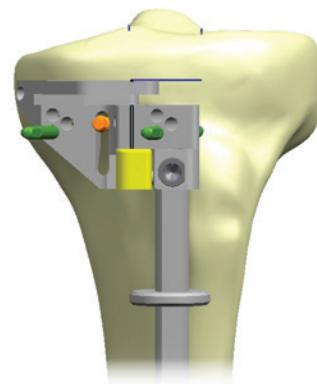

Figure 27
- 3 Then align the top of the Datum Block with the provisional depth mark from the distal femoral gauge and place a 65mm headed SPEED PIN° through the upper half of the Datum Block's provisional slot to stabilize (pin shown orange in Figure 27). **Do not fully seat pin.**
- 6 Fix the Datum Block by pinning through the "0"mm set of holes with 65mm non-rimmed SPEED PINs (pins shown green in Figure 27). Tighten the headed SPEED PIN in the slot for additional stabilization.